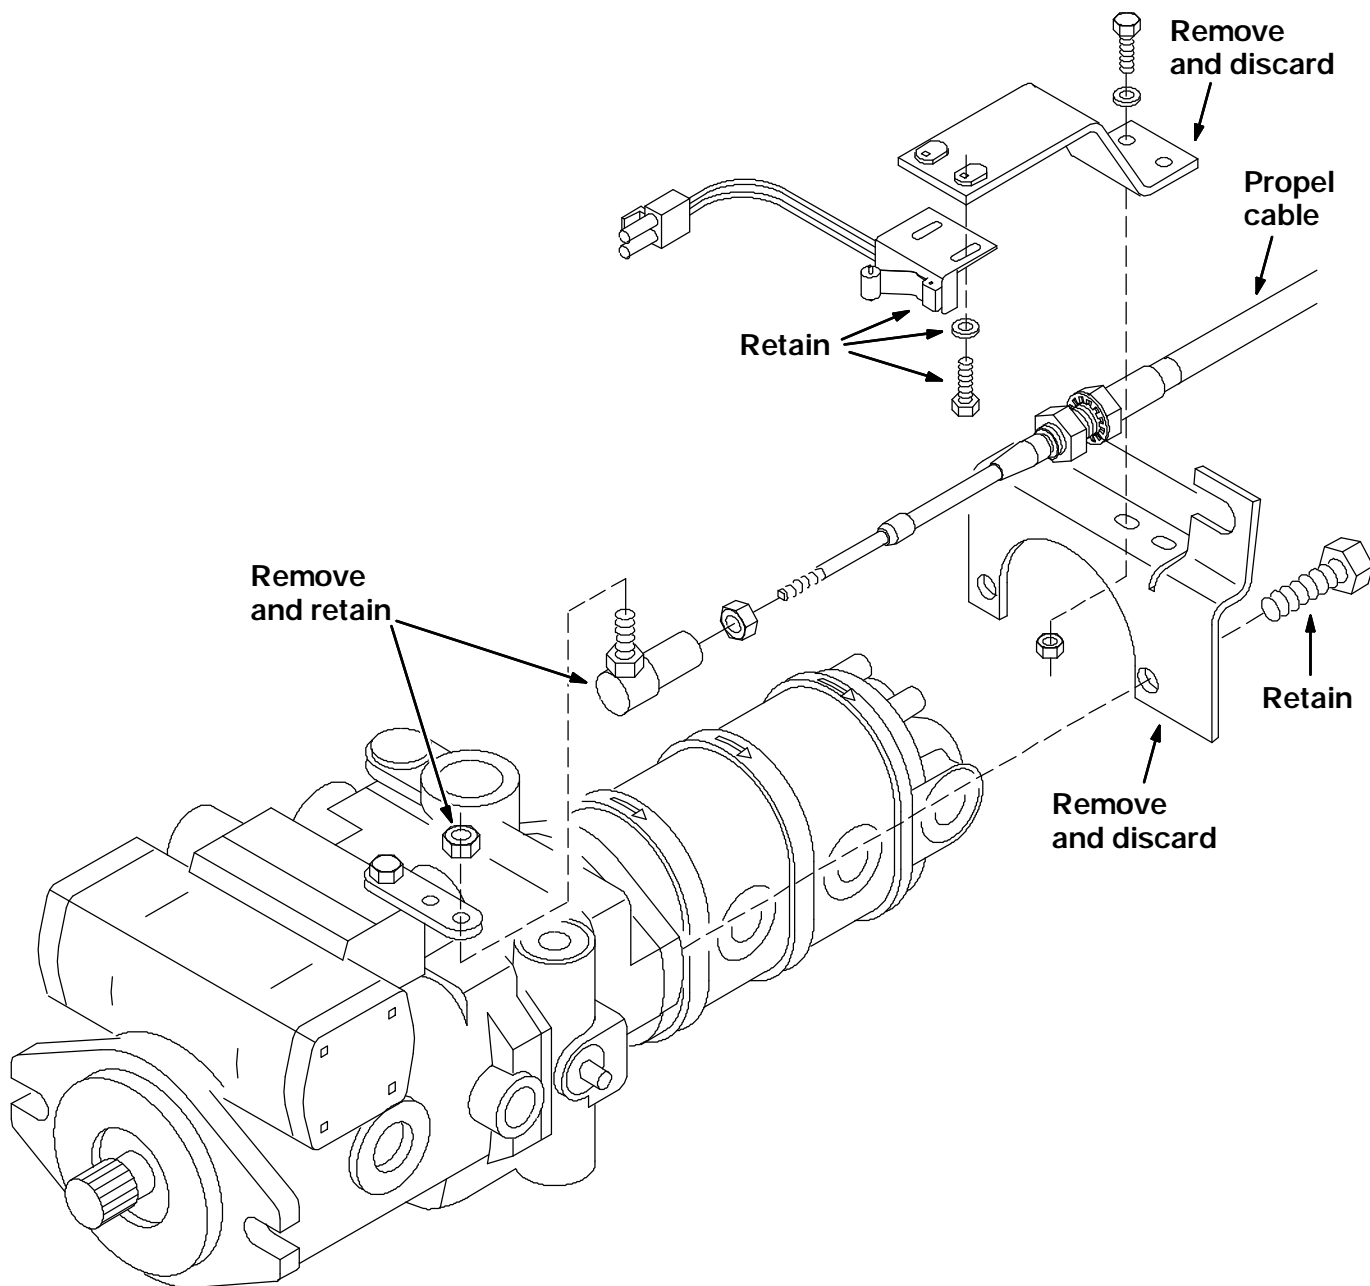

FIG. 1 - Existing Propel Cable Mount Bracket, Back-up Alarm Switch And Mount Bracket
(Refer to FIG. 1 and 2)
(Refer to FIG. 1)
5. Remove the nut from the propel cable ball joint where it attaches to the propel pump control arm. (Refer to FIG. 1)
6. Loosen the two large jam nuts on the propel cable where it attaches to the mount bracket at the accessory pump mount flange. Pull the propel cable out of the slot and pump control arm and place it out of the way for now. (Refer to FIG. 1)
7. Remove the two hex screws holding the propel cable mount bracket to the accessory pump mount flange. Remove and discard the existing cable mount bracket. Retain the hardware. (Refer to FIG. 1)